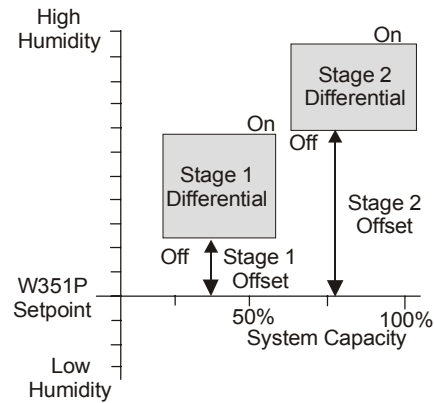

Figure 11: On/Off Dehumidification Using Two S351 Stage Modules
3. Adjust the differential potentiometer to the desired offset from the setpoint of the W351P control. (See Figure 11 for a sample multistage application if needed.)
- d. If the sensor voltage is below 9 V, adjust the setpoint to match the RHT. (See Figure 11.) The output terminal **V** should be less than 0.1 VDC and all segments in the LED should be off.
* See Figure 11 for RH_T vs. Humidity illustration.